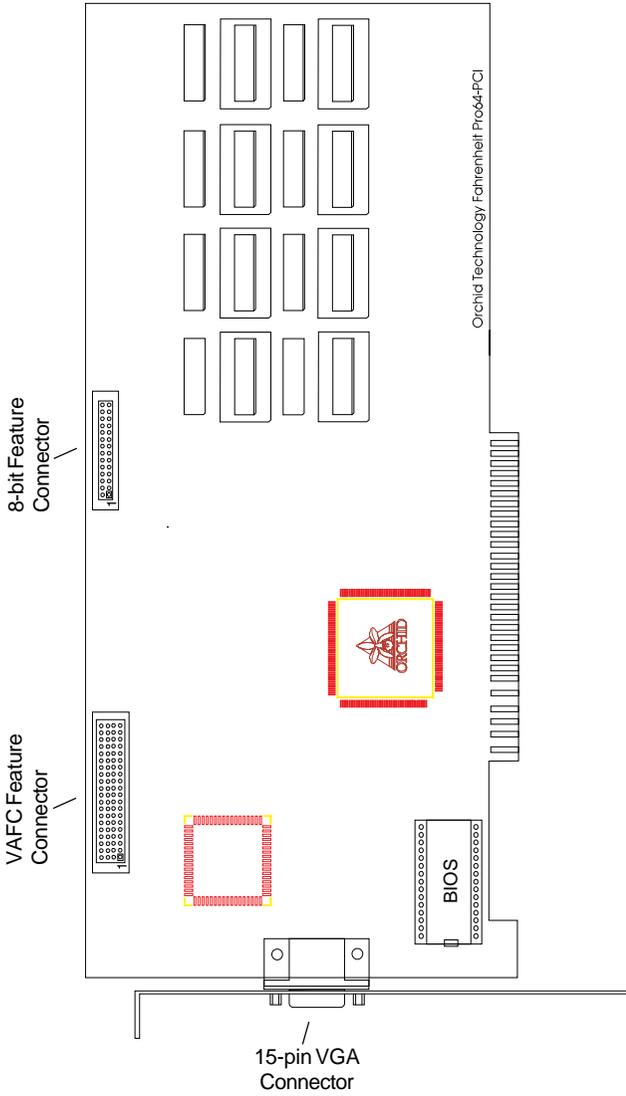

Figure 1.1: Fahrenheit ProVideo 64 PCI Diagram
8. Connect your monitor cable to the 15-pin monitor connector on the Fahrenheit ProVideo 64 (see Figure 1.1).